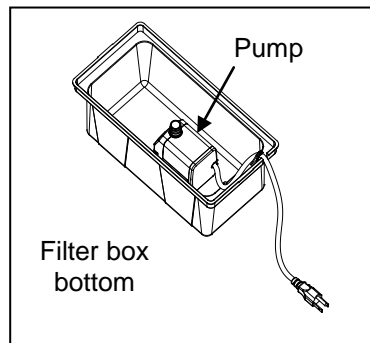

Fig. 1
1. Place your pump inside the filter box bottom, close to the center. Make sure that the outlet points up. Route the cord through the hole in the top corner of the filter box bottom. Fig. 1